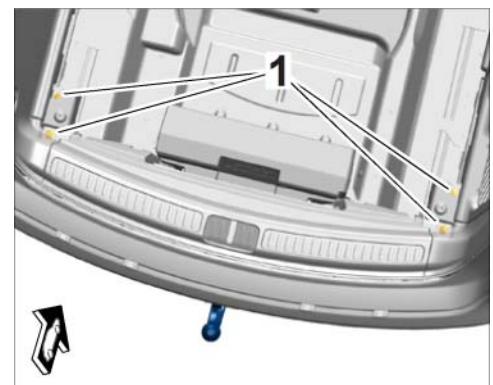

Figure 18
3.3.1 Insert towbar system guide profile into the longitudinal member on the vehicle, position it and secure it with four new screws, M10 x 105 x 45. ⇒ *Figure 18*